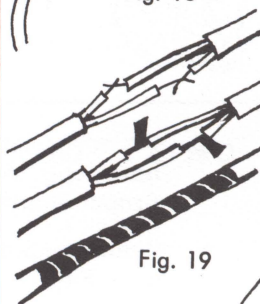

Fig. 19
2. By cutting out the frayed or broken parts of the cord, splicing and soldering. Tape each wire properly. Fig. 19. Caution: Splicing of cords is not recommended and even carefully spliced cords should be replaced as soon as possible.